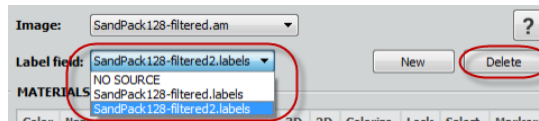

Figure 4.67: Deleting current label or switching to another one.
1. When not satisfied by result, you may easily cancel the watershed step by deleting the current label: this will take you back to the original marker labels, that you could then adjust or complete before applying again the watershed tool (see Figure 4.67).